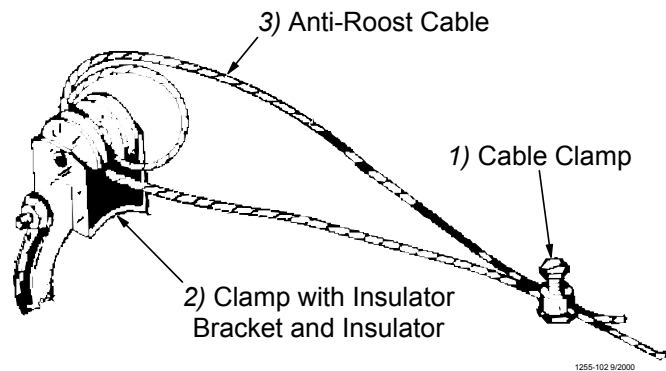

Figure 77. Anti-Roost Cable at the Hopper
2. Start at the hopper end of the line and form a loop around the anti-roost bracket. For best results, make a double loop around the anti-roost insulator in the center groove of the insulator and fasten with a 1/16" cable clamp as shown in **Figure 77**.